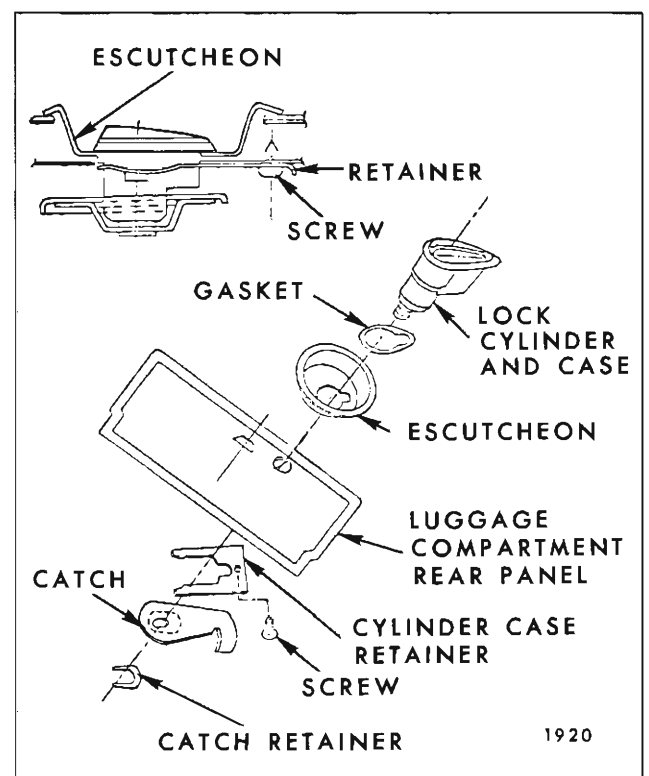

Fig. 1H41—Luggage Compartment Lock 15000 and 16000 Series
2. Remove catch cover screws and remove cover (Fig. 1H40).
3. Remove three screws securing catch to seat back frame and remove catch assembly from seat back (Fig. 1H40).
**IMPORTANT:** To assure proper operation of the folding second seat back the catch assembly should be installed and, where necessary, adjusted for a minimum gap of 1/64 inch to a maximum gap of 3/16 inch between bottom of slot in catch and catch striker when seat back is in full "up" position (Fig. 1H40).